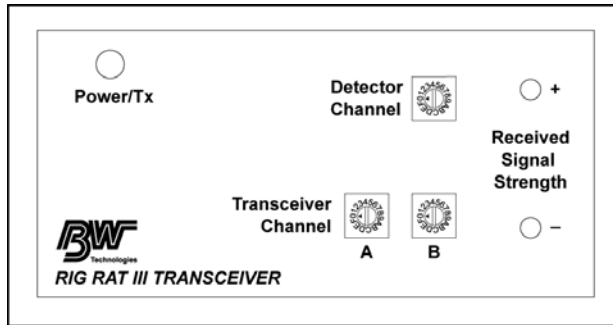

Figure 11. RIG RAT III Transceiver
5. Locate the RIG RAT III Transceiver. Refer to Figure 11.